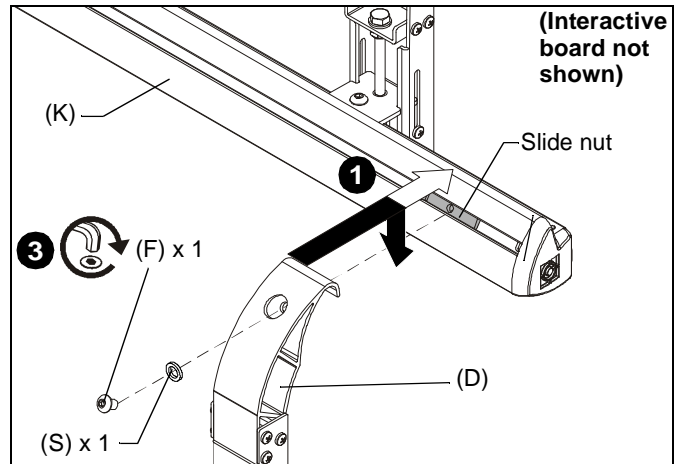

Figure 7
- assembly (K). (See Figure 7)
2. Move the slide nut so that it is aligned with the upright (D). (See Figure 7)
3. Fasten upright in place using one 1/4-20 x 3/8" button head cap screw (F) and one 1/16" nylon spacer (S) into slide nut. (See Figure 7)